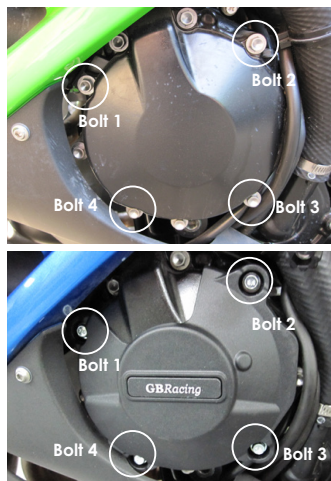

Fig. 1
Please note: 2024 model: See Fig. 1, 2 & 3:
- You will need to remove the small metal cover that has been added to the OE casing for this model - see Fig. 1.